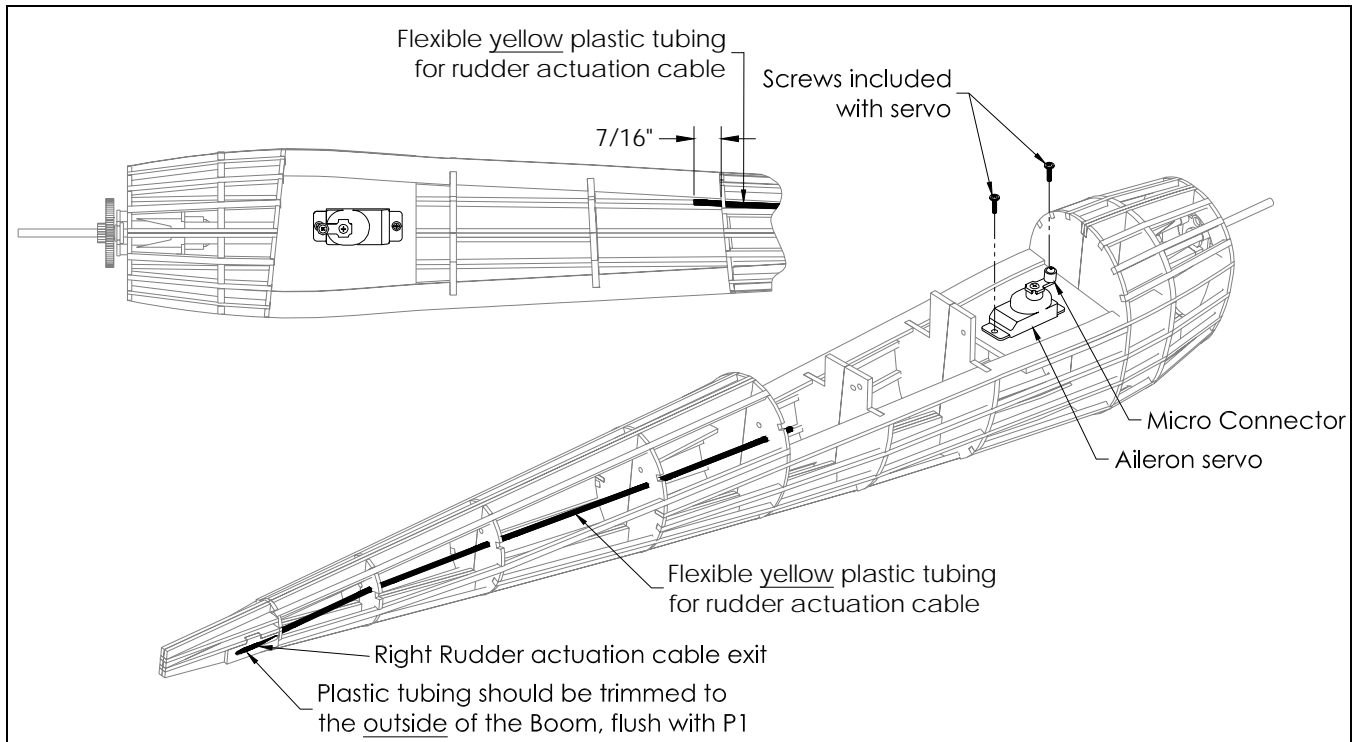

Figure 22
- ❑ Install the flexible plastic tubing in the right boom as shown in Figure 22. Note that there isn't a control tube for the elevator in this boom.
- ❑ Install the aileron servo with the mounting screws included with the servo. Note the orientation shown in Figure 22. The servo arm should be trimmed/modified to the shape matching the arm shown in Figure 22.
- ❑ Install the Micro Connector to the servo arm as illustrated in Figure 22.